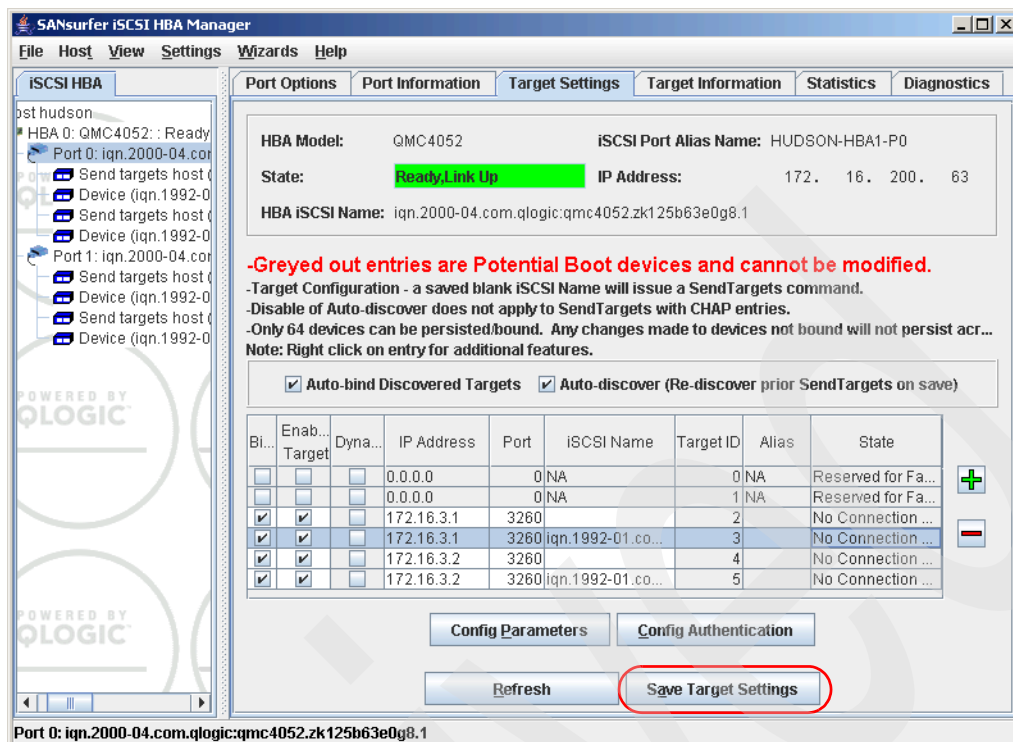

Figure 21-58 SANsurfer - iSCSI targets
10. In Figure 21-58 on page 521, click **Save Target Settings** to save the authentication modifications.